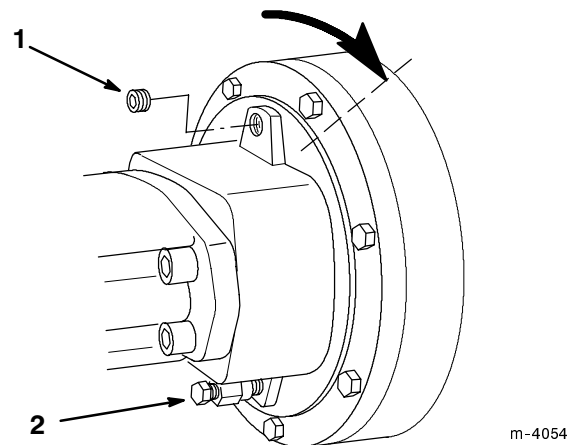

Figure 9
2. Rotate the drive head so that the oil drain plug is located on top and the breather plug is on the bottom (Fig. 9).
3. Remove the oil drain plug (Fig. 9)
4. Rotate the auger drive head so that the drain opening is at the 2 o'clock position (Fig 9). Oil should just begin to come out of the opening.
1. Support the drive head over an oil pan so that the oil drain plug (Fig. 9) is on the bottom of the drive head, facing the oil pan.